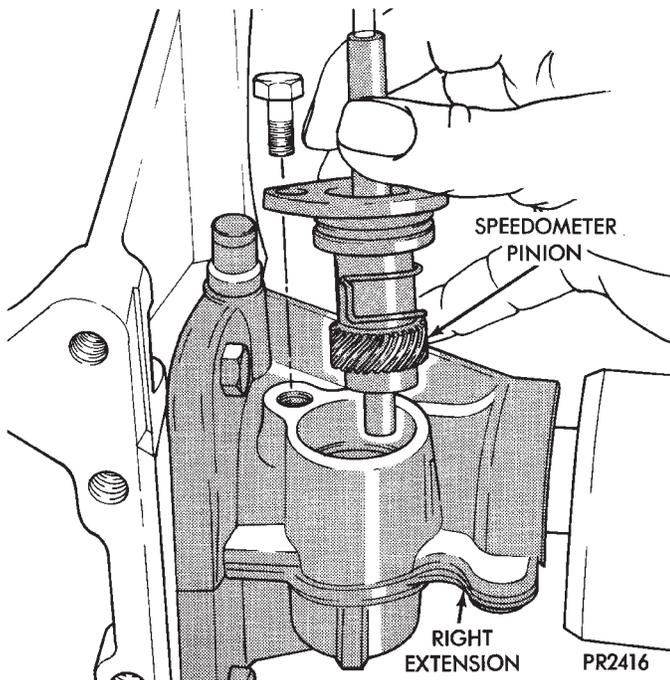

Fig. 6 Remove Speedometer Pinion Clamp (For Right Driveshaft).
(1) For removal of right driveshaft, the speedometer pinion must be removed BEFORE shaft removal (Fig. 6).